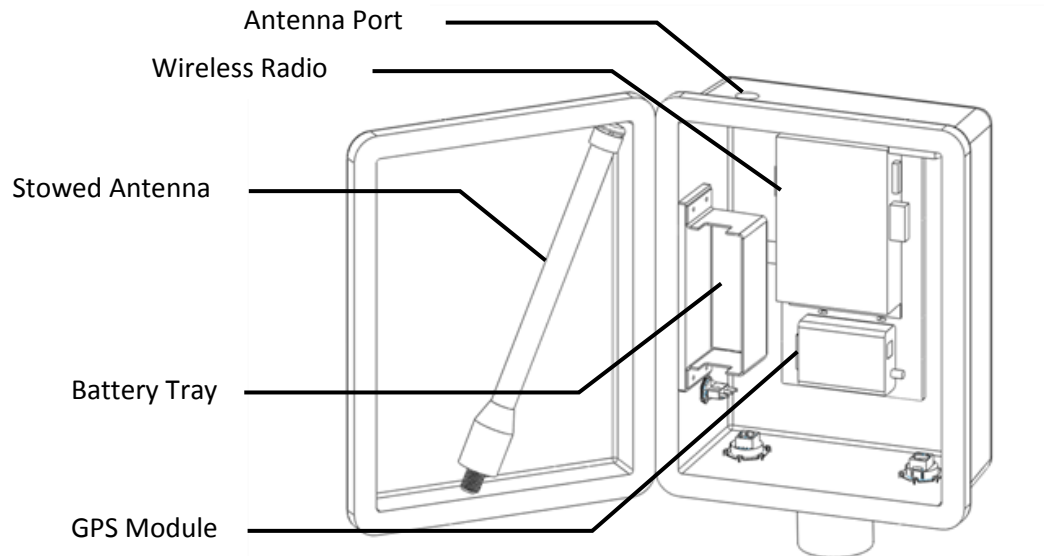

Figure 7: Mobile Base Station Enclosure
1. Open the base station enclosure case, as shown in Figure 7.